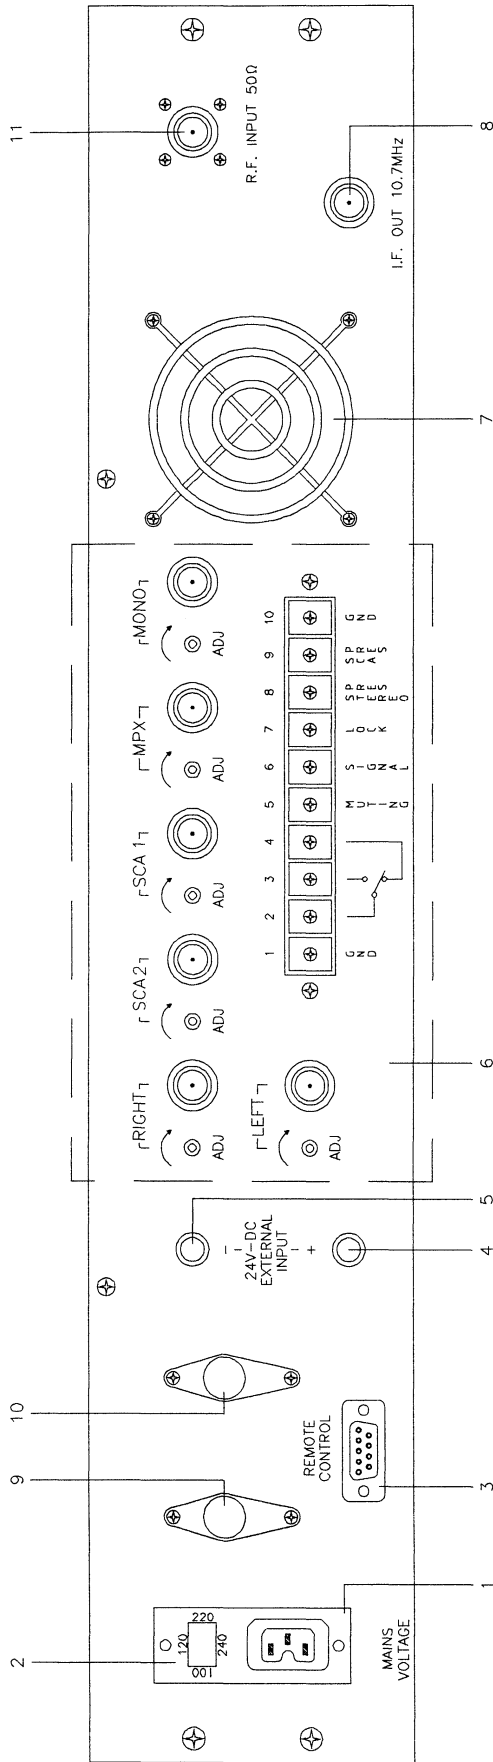

FIG. 2
REAR PANEL VIEW DESCRIPTION (Fig. 2)
First of all select the correct supply voltage using the selector situated on the rear panel; use a screwdriver to raise the cover (2 Fig.2) on which are written the various voltages, rotate it until the arrow points to the correct voltage and re-insert it.
- 2) Ensure that the antenna is correctly fitted to the R.F. input (11 Fig.2) situated on the receiver's rear panel.
- 4) Connect power to the unit via the VDE socket (1 Fig.2).